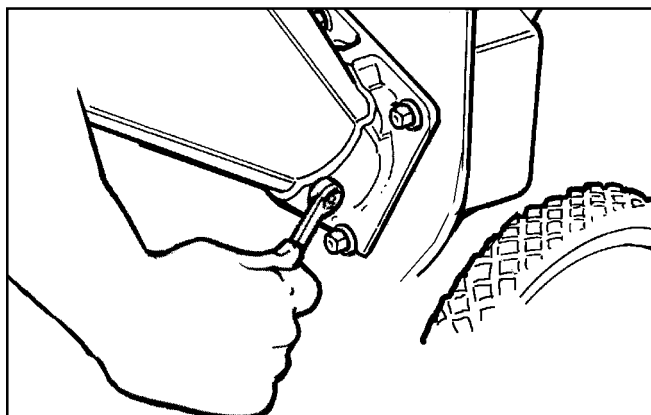

Figure 1. Installing the Chipper Cone
1. See Figure 1. Position the chipper cone assembly base over the three 5/16-18 threaded studs protruding from the engine plate, and attach using (3) 5/16-18 whiz nuts.